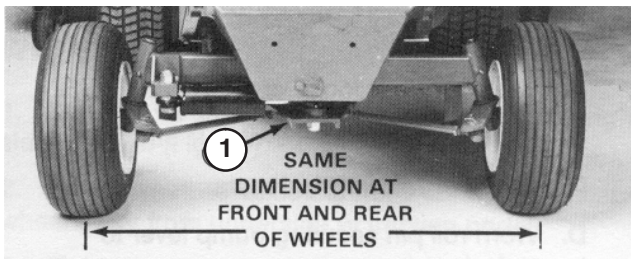

Figure 66
2. Loosen the jam nuts on both tie rods Adjust both tie rods until center-to-center distance at front and back of rear wheels is the same (Fig. 66).